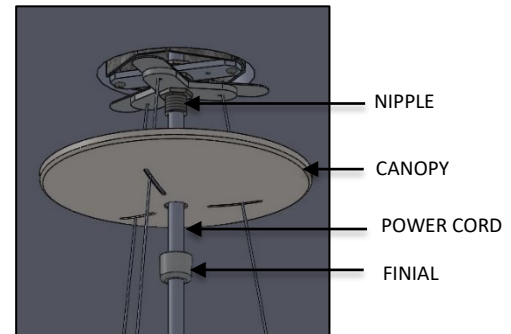

FIG. 29 – CORD INSTALLATION
8. Feed POWER CORD through the center hole IN THE CANOPY and make secure connection by passing through the NIPPLE (available in mounting bracket assembly) as shown below in FIG. 29.